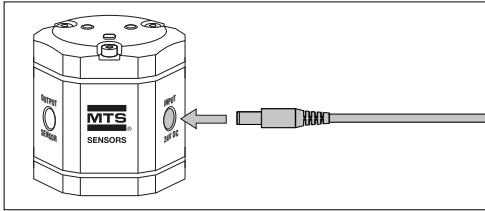

Fig. 6: Connecting the power supply to the TempoLink smart assistant
Connect the barrel connector for the power supply ② to the "INPUT 24 VDC" port on the TempoLink smart assistant (Fig. 6).